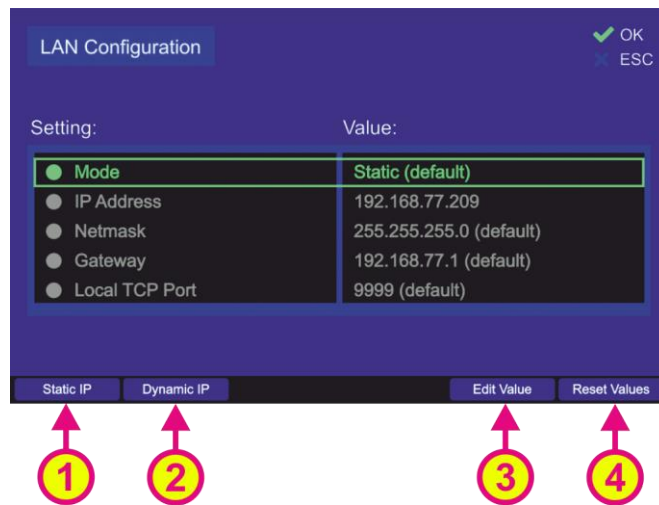

Fig. 145 LAN configuration menu
Following sub-menu will appear (s. Fig. 145).
Pressing the hotkey “Reset Values” (s. Fig. 145, position 4) will set all menu items to the default values.
- o IP address assignment can be changed directly using the hotkeys “Static IP” and “Dynamic IP” (positions 1 and 2, s. Fig. 145), so that the value of this setting is changed without opening the dialog, or it can be set over the corresponding dialog after pressing the hotkey “Edit Value” (s. Fig. 145, position 3) while this menu point is marked, the following dialog opens (s. Fig. 146).
- o For changing the IP address press the hotkey “Edit Value” while this menu point is marked (s. Fig. 145, position 3).
- For changing the netmask press the hotkey “Edit Value” while this menu point is marked (s. Fig. 145, position 3).
- For changing the gateway press the hotkey “Edit Value” while this menu point is marked (s. Fig. 145, position 3).
- For changing the port press the hotkey “Edit Value” while this menu point is marked (s. Fig. 145, position 3).